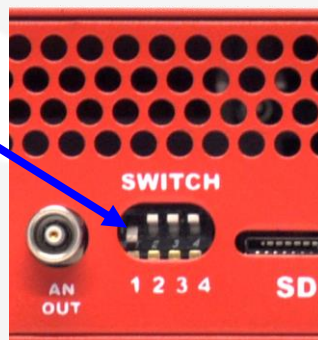

Figure 25: SWITCH position for normal use
- Set the SWITCH #1 on the rear panel to be positioned low, as illustrated in Figure 25;